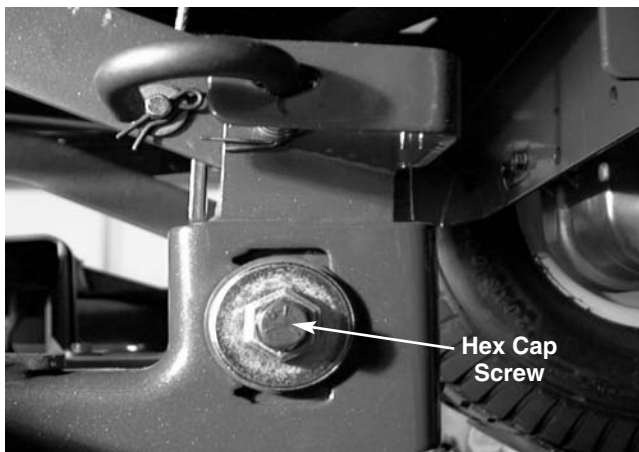

FIGURE 7.
- 3). Loosen (DO NOT REMOVE) the hex cap screw on the left deck hanger bracket using a 1/2" and a 3/4" wrench. See figure 7.